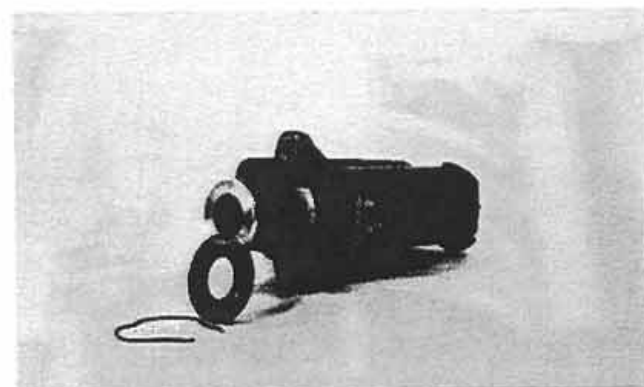

Figure 5:
5. The piston should be free to come out (Fig. 5). If it does not, light tapping on the cylinder body or working the piston in and out should gradually free it.